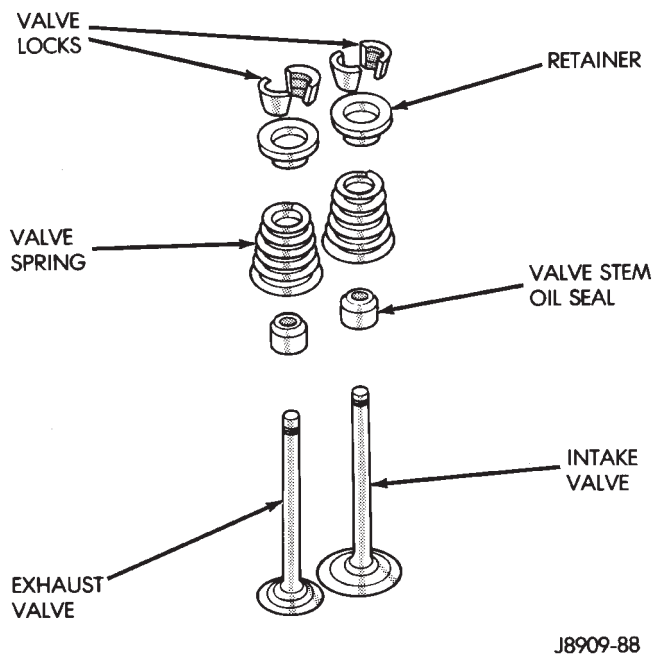

Fig. 5 Valve and Valve Components
(1) Remove the engine cylinder head cover.
(2) Remove capscrews, bridge and pivot assemblies and rocker arms for access to each valve spring to be removed.
(3) Remove push rods. Retain the push rods, bridges, pivots and rocker arms in the same order and position as removed.
(4) Inspect the springs and retainer for cracks and possible signs of weakening.
(5) Remove the spark plug(s) adjacent to the cylinder(s) below the valve springs to be removed.
(6) Install a 14 mm (1/2 inch) (thread size) air hose adaptor in the spark plug hole. An adaptor can be constructed by welding an air hose connection to the body of a spark plug with the porcelain removed.
(7) Connect an air hose to the adapter and apply air pressure slowly. Maintain at least 621 kPa (90 psi) of air pressure in the cylinder to hold the valves against their seats. For vehicles equipped with an air conditioner, use a flexible air adaptor when servicing the No.1 cylinder.
(8) Tap the retainer or tip with a rawhide hammer to loosen the lock from the retainer. Use Valve Spring Compressor Tool MD-998772A to compress the spring and remove the locks (Fig. 5).
(9) Remove valve spring and retainer (Fig. 5).
(10) Remove valve stem oil seals (Fig. 5). Note the valve seals are different for intake and exhaust valves. The top of each seal is marked either INT (Intake) or EXH (Exhaust). DO NOT mix the seals.